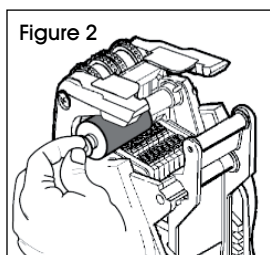

Figure 2
3. Hold the new ink roller by the stem. (See Figure 2) Slide it onto the post, snapping it into place. (See Figure 2)